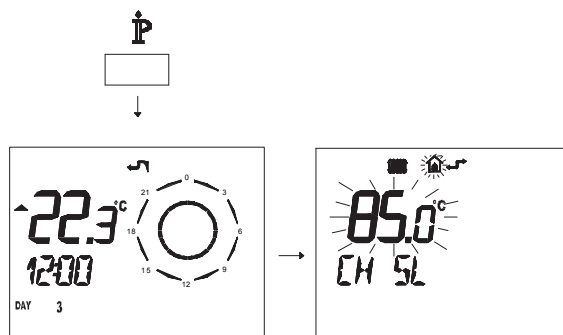

Fig. 7.28
- Press button  for more than 3 seconds to enter in **INFO** mode (Fig. 7.28).